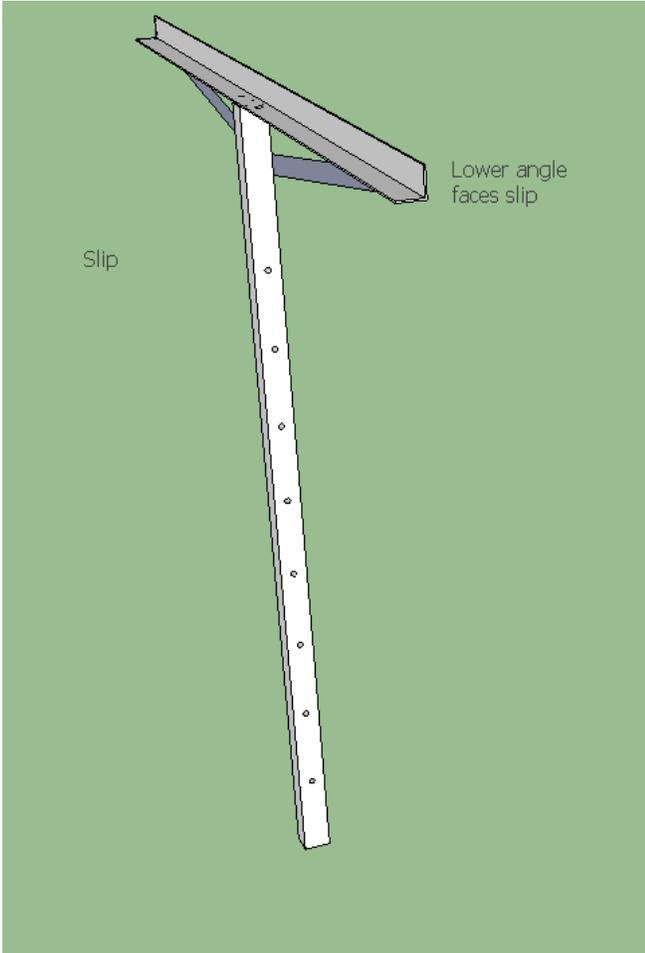

FIGURE 2
Step 2: Next drop in the “Y” support braces. NOTE: Make sure the holes on the Y brace are in the same direction and lines up with the hole on the upright. Also the bottom “L” side of the angle iron support should face inside the slip (Figure 2).